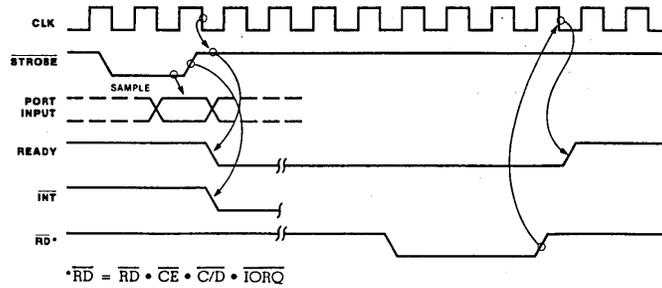

Figure 15. Mode 1 Input Timing
**Input Mode (Mode 1).** When  $\overline{\text{STROBE}}$  goes Low, data is loaded into the selected port input register (Figure 15). The next rising edge of strobe activates  $\overline{\text{INT}}$ , if Interrupt Enable is set and this is the highest-priority requesting device. The following falling edge of CLK resets Ready to an inactive state, indicating